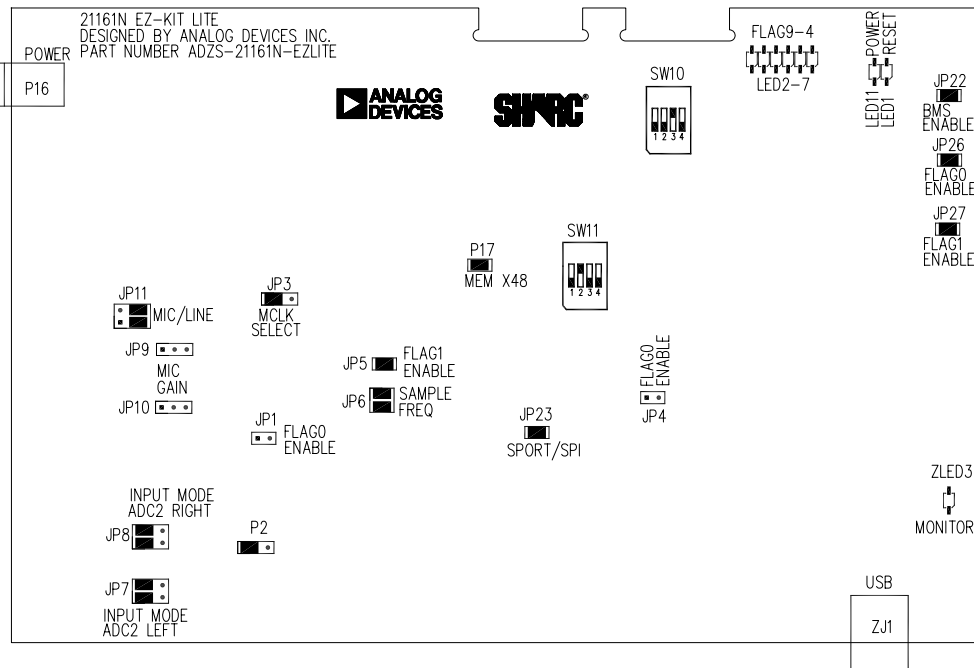

Figure 1-1. EZ-KIT Lite Hardware Setup
2. Figure 1-1 shows the default jumper settings, switches, connector locations, and LEDs used in installation. Confirm that your board is set in the default configuration before continuing.